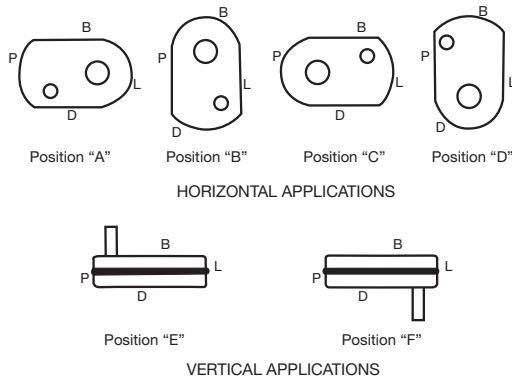

Figure 1 - Mounting Positions
2. Determine the running positions of the reducer. (See Fig. 1) Note that the reducer is supplied with either 4 or 7 plugs; 4 around the sides for horizontal installations and 1 on each face for vertical installations. These plugs must be arranged relative to the running positions as follows:
The running position of the reducer in a horizontal application is not limited to the four positions shown in Figure 1. However, if running position is over 20° either way from sketches, the oil level plug cannot be safely used to check the oil level, unless during the checking the torque arm is disconnected and the reducer is swung to within 20° of the positions shown in Figure 1. Because of the many possible positions of the reducer, it may be necessary or desirable to make special adaptations using the lubrication fitting holes furnished along with other standard pipe fittings, stand pipes and oil level gauges as required.
① Refer to Fig. 1 on page 2 for mounting positions.
② U. S. Measure: 1 quart = 32 fluid ounces = .94646 liters.
NOTE: If reducer position is to vary from those shown in Figure 1 either more or less oil may be required. Consult factory.